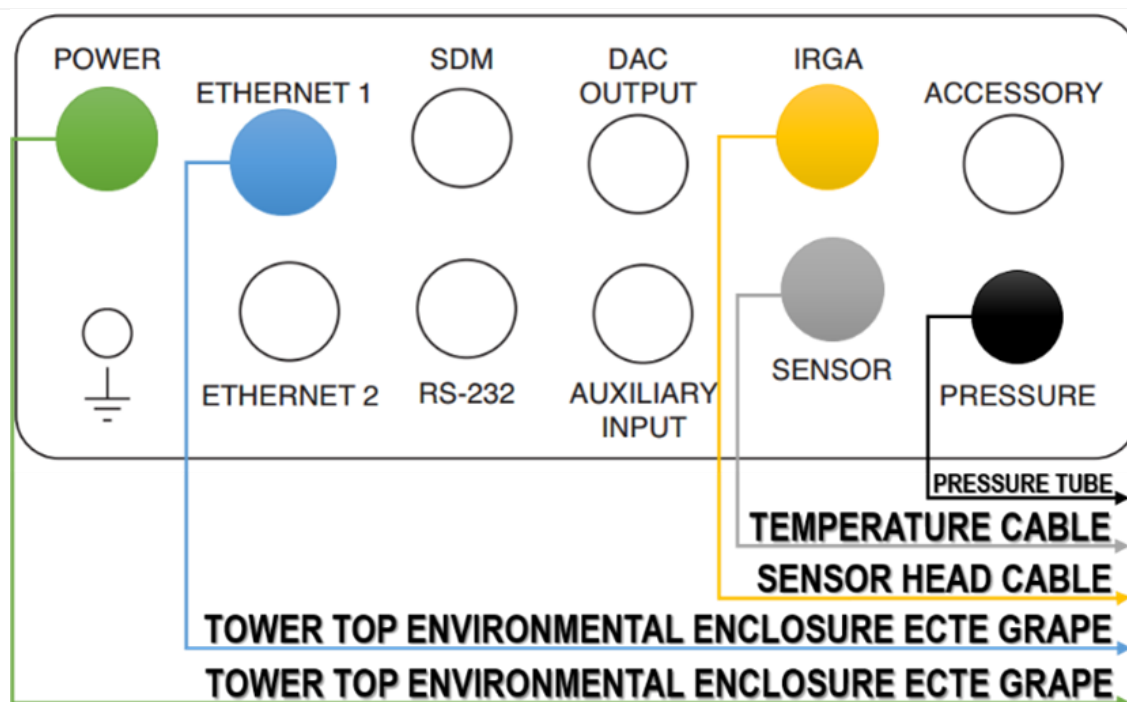

Figure 91. LICOR LI-7550 Analyzer Interface Unit Connections.
STEP 17 | The LI-7550 control box mounts to Unistrut on the top tower with 4 bolts (see Figure 90). Remove/Install three LICOR LI-7200/RS IRGA cables (see **Figure 91**):